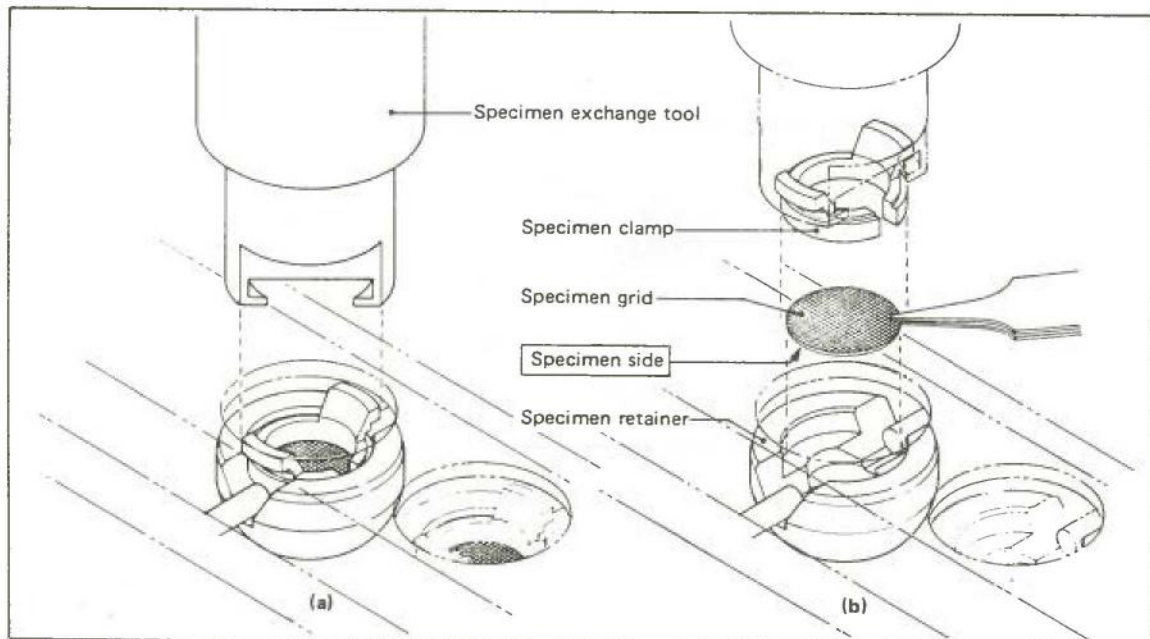

Fig. 4.4 Specimen exchange
4. Remove the used specimen from the specimen holder as follows (Fig. 4.4):